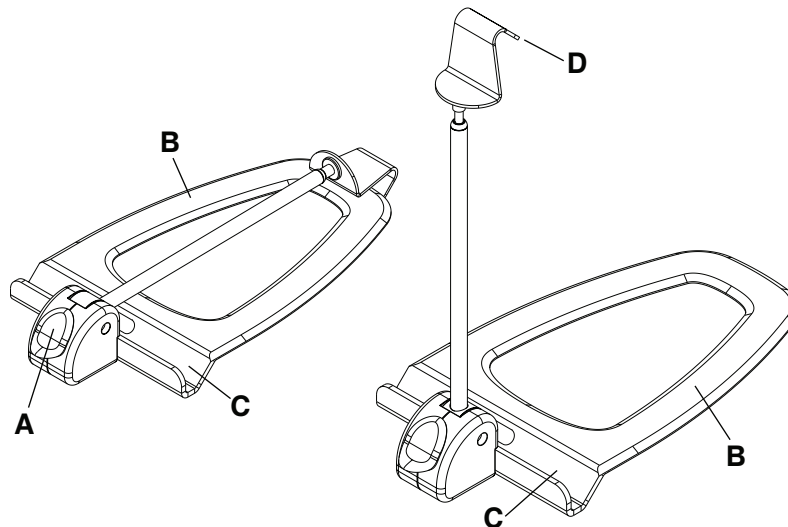

Figure 32 – Lateral X-ray cassette holder
2. Press down on the yellow release button (A) to open the lateral cassette holder (Figure 32).
3. Slide the flat base (B) between the mattress and the patient platform.
5. Place the X-ray cassette in the cassette canal (C).
6. Pull up on the cassette hook (D) to adjust the height of the arm to fit over the X-ray cassette to hold the cassette in place.